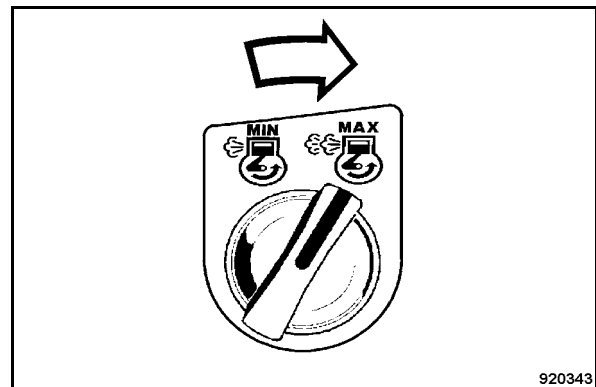

Fig. 65
- Turn the rotary momentary contact switch for engine speed (Fig. 65) clockwise to "MAX".